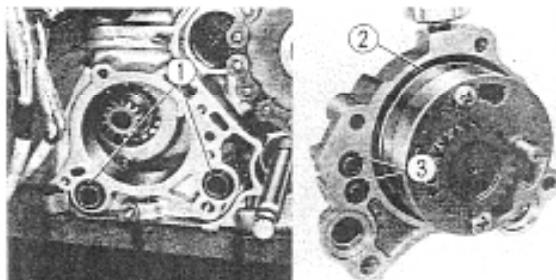

Fig. 3-29 ① O-ring, 15x2.5
3. Make sure the oil filter is properly assembled. (See Fig. 3-29)